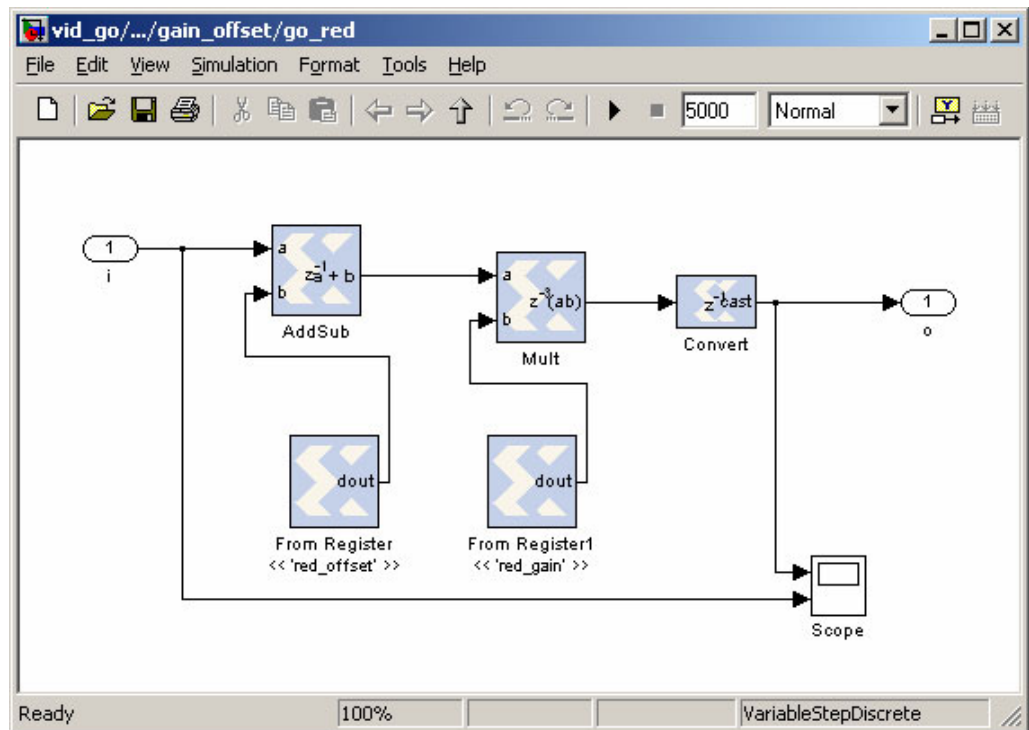

Figure 6-5: Connecting the Blocks
7. Add a scope and connect the blocks as shown in Figure 6-5.